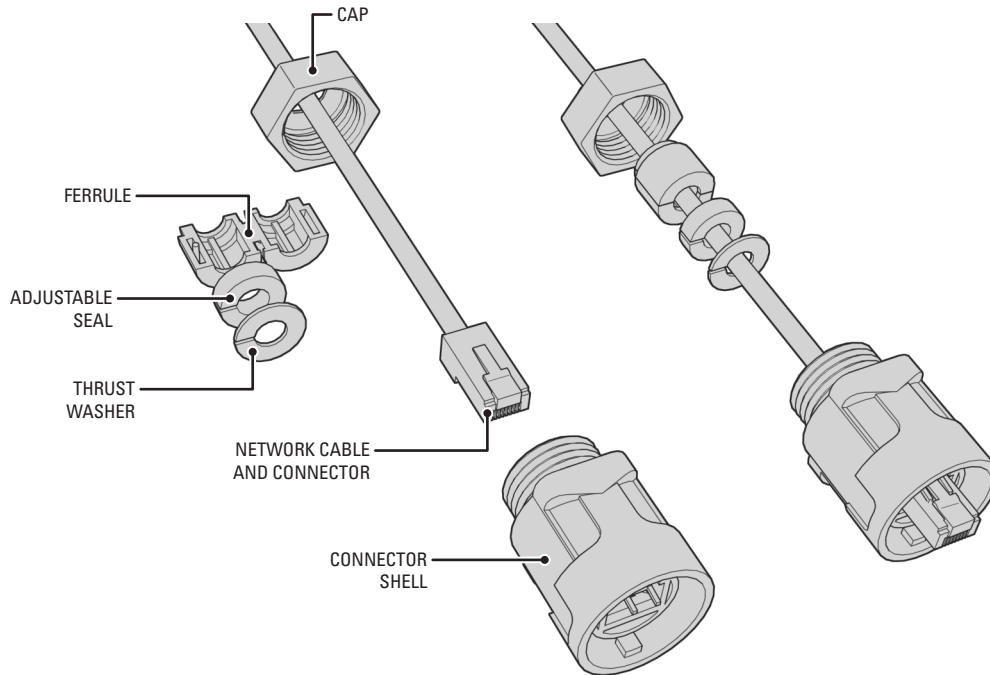

Figure 9. Assembling the Weatherproof Network Connector
3. Install the supplied weatherproof network connector onto the network cable at the mount site (refer to Figure 9):